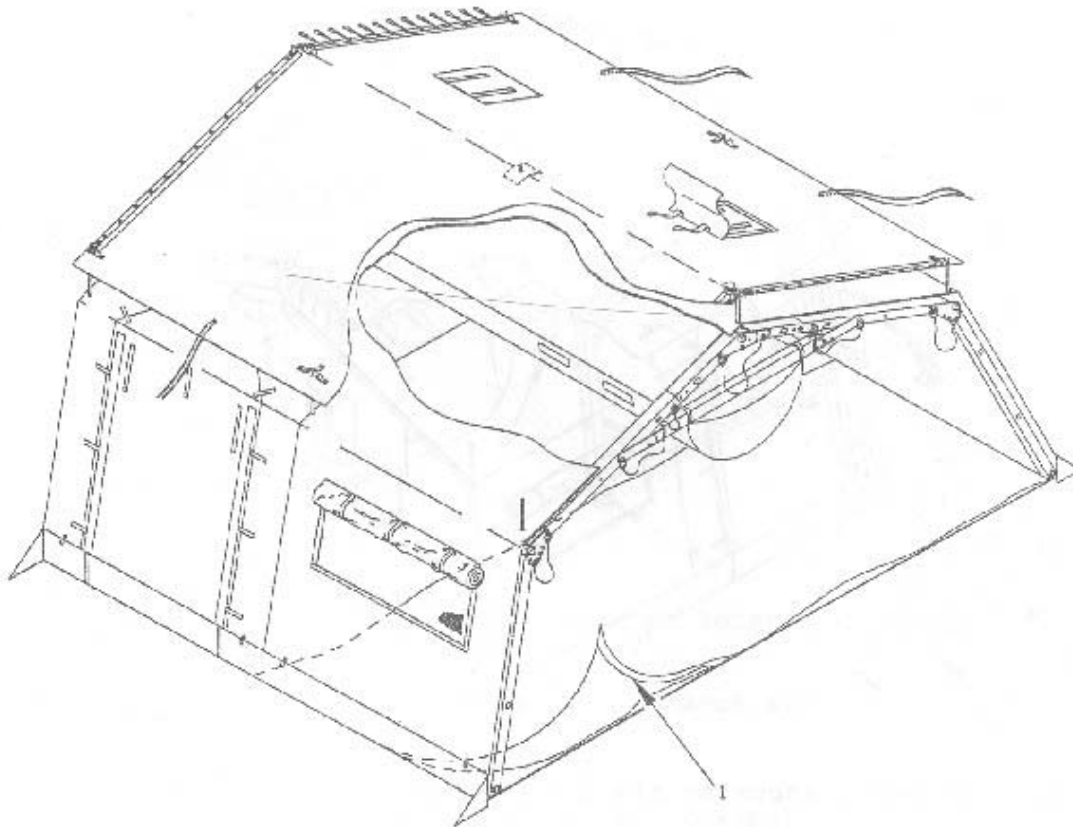

Figure 3-7
- (1) Insert grommet over pin and then join the roof section and end wall by engaging the loops.
- (2) Place remaining roof sections on frame and join together by engaging the loops See (Figure 3-7).
- (3) Put on the other end wall, joining it to the roof sections.